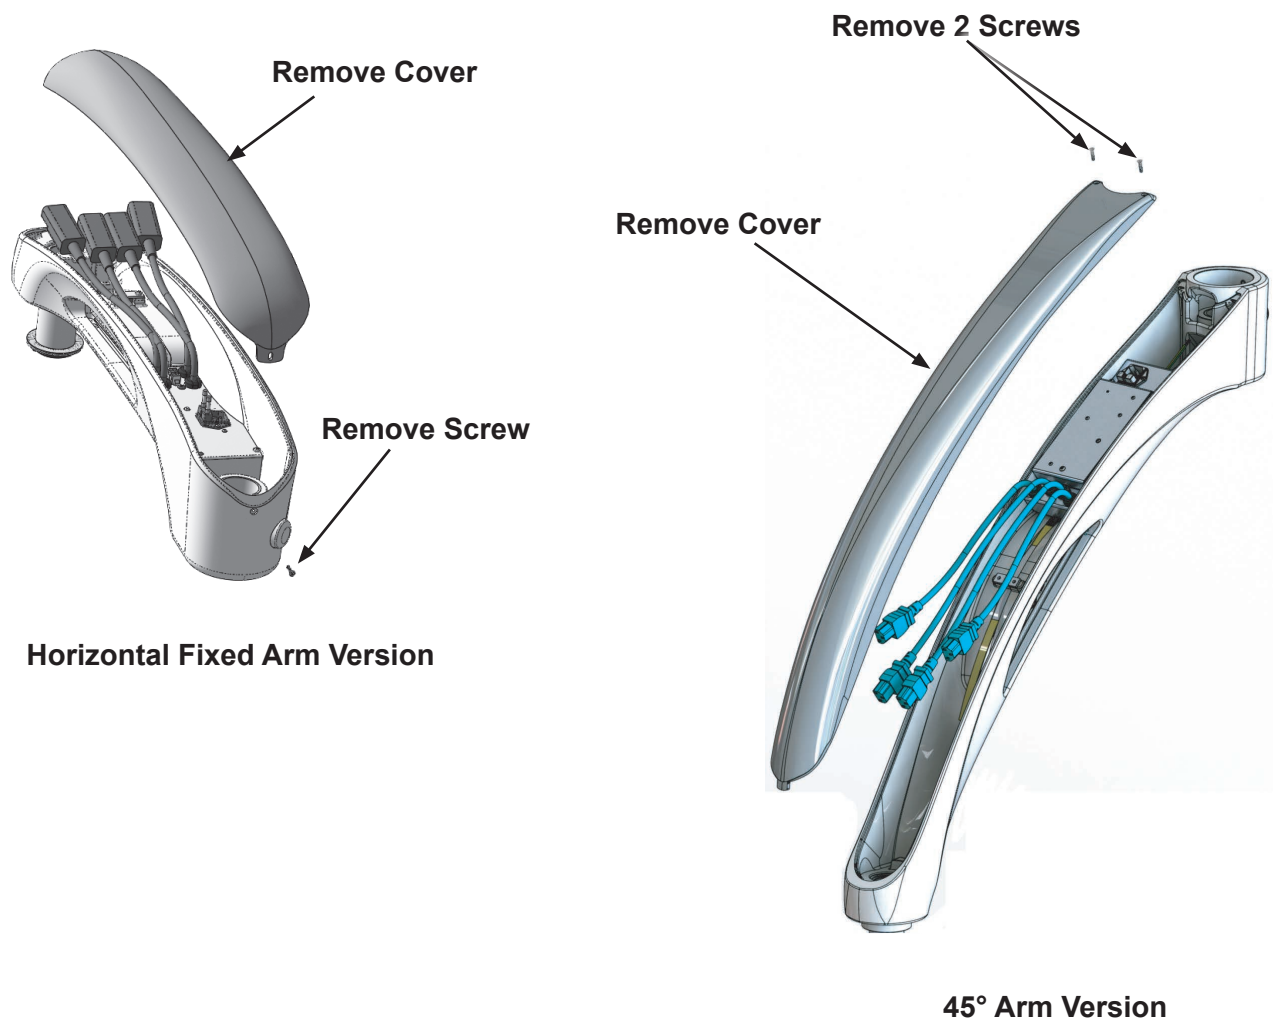

Figure 4-1. Removing the Horizontal and 45° Covers
1. Using a #2 Phillips screwdriver, remove the machine screw securing the cover and remove the cover, as shown in Figure 4-1
1. Using a #2 Phillips screwdriver, remove the seven (7) screws (horizontal arm assy) and eight (8) (45 degree arm assembly) from the covers as shown. **See Figure 4-1, 4-2, and 4-3**